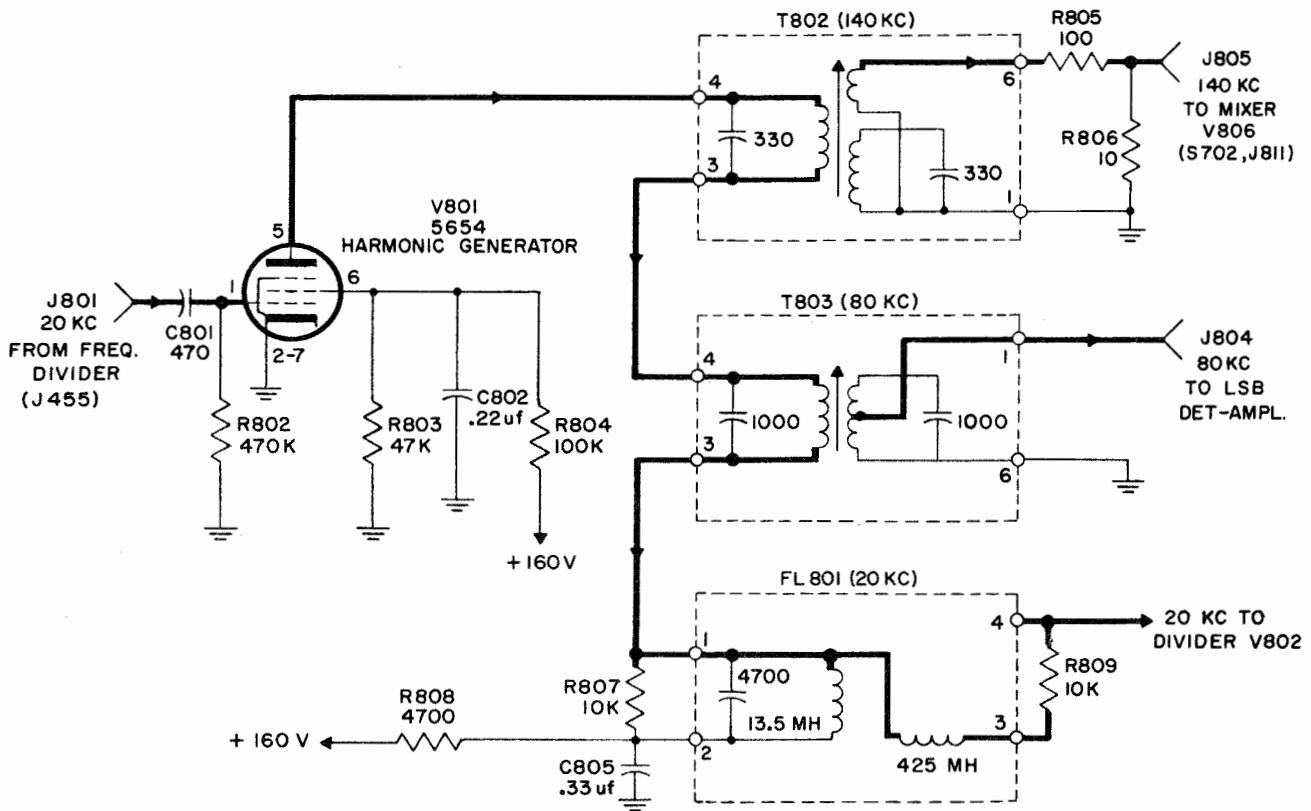

Figure 4-47. Harmonic Generator V801, Simplified Schematic Diagram
b. HARMONIC GENERATOR V801.—Figure 4-47 is a schematic diagram of harmonic generator V801, the function of which is described in subparagraph *a*. V801 gets its 20 kc signal from the frequency dividers by way of connector J801 and capacitor C801.